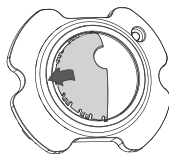

FIG.2
3.3. Fixing lens shield: There is slot around the lens and insert the lens shield into slot (See FIG. 2).